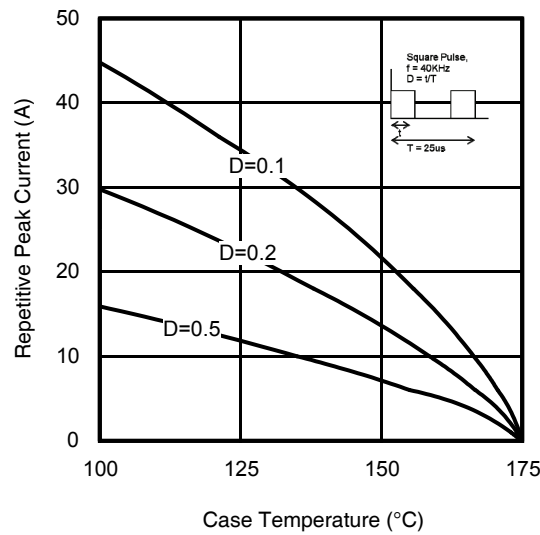

Fig 26. Maximum Diode Repetitive Forward Peak Current vs. Case Temperature
- ① V_{CC} = 80% (V_{CES}), V_{GE} = 20V, R_G = 22Ω, L=620μH.
- ② R_θ is measured at T_J of approximately 90°C.
- ③ Refer to AN-1086 for guidelines for measuring V_{(BR)CES} safely.
- ④ Pulse width limited by max. junction temperature.
- ⑤ Values influenced by parasitic L and C in measurement.
- ⑥ f_{sw} = 40KHz, refer to figure 26.